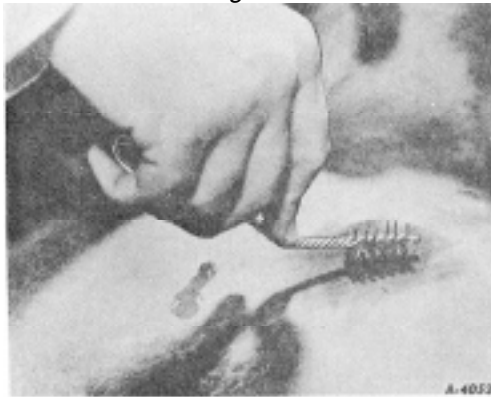

Fig. 17
4. With a wire brush (Fig. 17) or a power buffer, thoroughly roughen an area about the injury slightly larger than patch and within previously